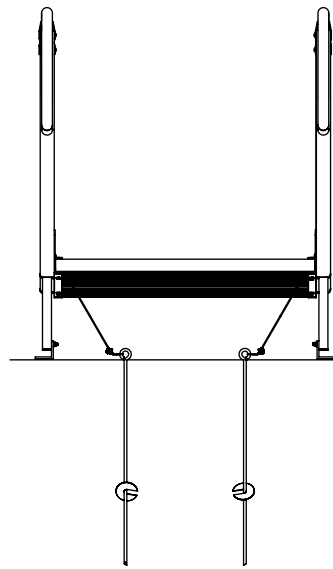

Fig. 5.5
5.2 HURRICANE TIE DOWN KIT (RAMPS): Ramp sections require a tie down on each side of the ramp section at the lowest post location at each ramp section. Locate hex bolt on bottom side of ramp and loosen, loop wire around hex bolt and clamp with wire clamp re-tighten hex bolt. Screw auger vertically into the ground leaving only the eye of the auger exposed (**Fig. 5.5**). Place other end of wire through the auger eye cinch tight and clamp with wire clamp (**Fig. 5.6**). Cut off any excess rope and tape ends with electrical tape to ensure that the wire rope will not fray.